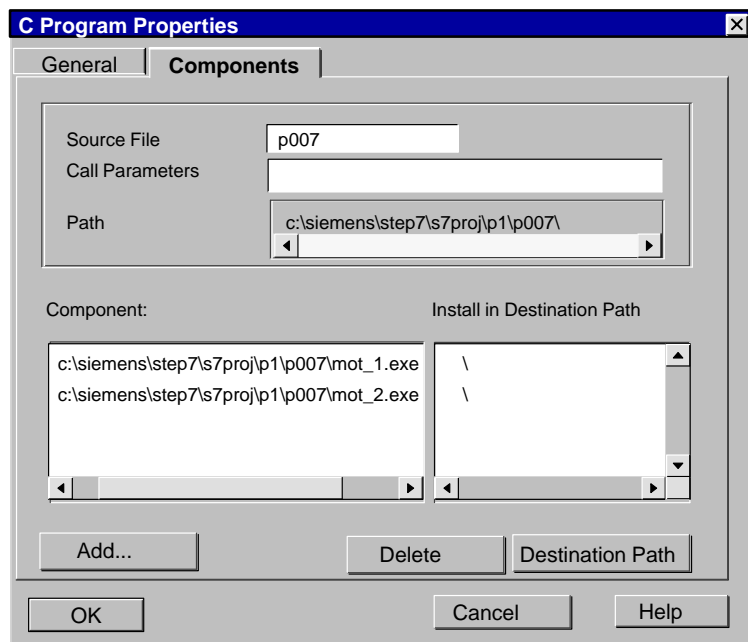

Figure 3-3 “C Program Properties” Dialog Box, “Components” Tab
4. Open the “Components” tab if you want to change properties of program components (Figure 3-3).